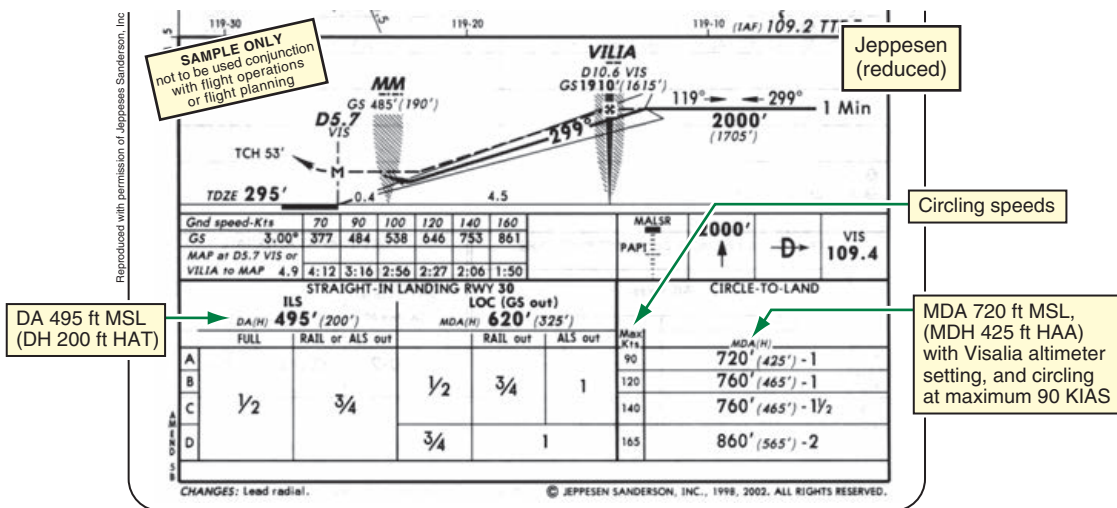

Figure 27-48 Excerpt from the Visalia, California ILS Rwy 30 Jeppesen approach chart.
Jeppesen charts use the term *decision altitude (height)*, abbreviated DA(H), in place of just *DH* (decision height), as on FAA charts. For example, DA(H) 495'(200') means the decision altitude is at 495 feet MSL, which is 200 feet AGL above touchdown (HAT). Refer to the example in figure 27-48: the Jeppesen Visalia, CA, ILS approach chart excerpt.